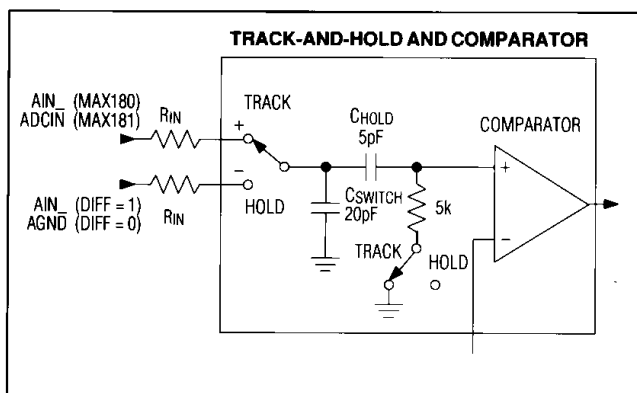

Figure 4. Equivalent Input Circuit
Figure 4 shows the equivalent input circuit, illustrating the sampling architecture of the ADC's analog comparator. The input capacitance acts as the hold capacitor and is charged by the input signal with every A/D conversion. The capacitance is charged through an internal 1kΩ resistor in series with the input. Note: Figure 4's switches represents both the mux and hold switches.
**Table 1. Address vs. Channel Selection (see Figure 4)**